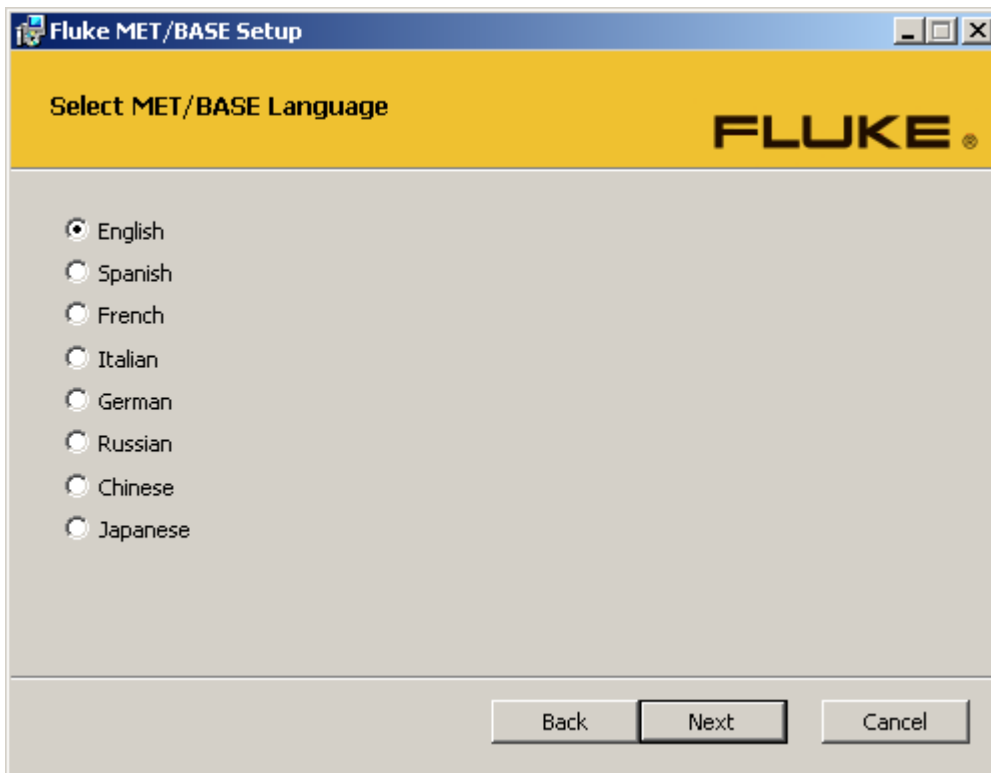

Figure 7. Language Selection
4. Select the language, see Figure 7.
6. Enter the database name to use for this server, see Figure 7. The value entered is used as the name for the Sybase 11 database service.
4. Select the language to use, see Figure 7.